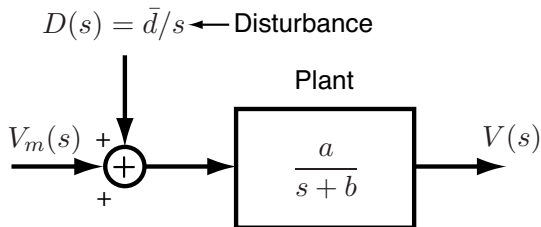

Figure 1: Block diagram of the plant. The control input is the voltage  $V_M$  (Volts). The measured output is the speed  $V$  (m/s).
the plant block diagram is depicted in Figure 1.
2. Consider the block diagram in Figure 1 and assume that the road is flat, i.e.,  $\theta = 0$  and hence  $D(s) = 0$ . Suppose that a step voltage  $v_m(t) = V_0 \cdot \mathbf{1}(t)$  ( $V_0 > 0$ ) is applied to the DC motor and that at time  $t = 0$  the cart is still (i.e.,  $v(0) = 0$ ). Using the Final Value Theorem, determine  $v(+\infty) = \lim_{t \rightarrow \infty} v(t)$  in terms of  $V_0$ ,  $a$ , and  $b$ .